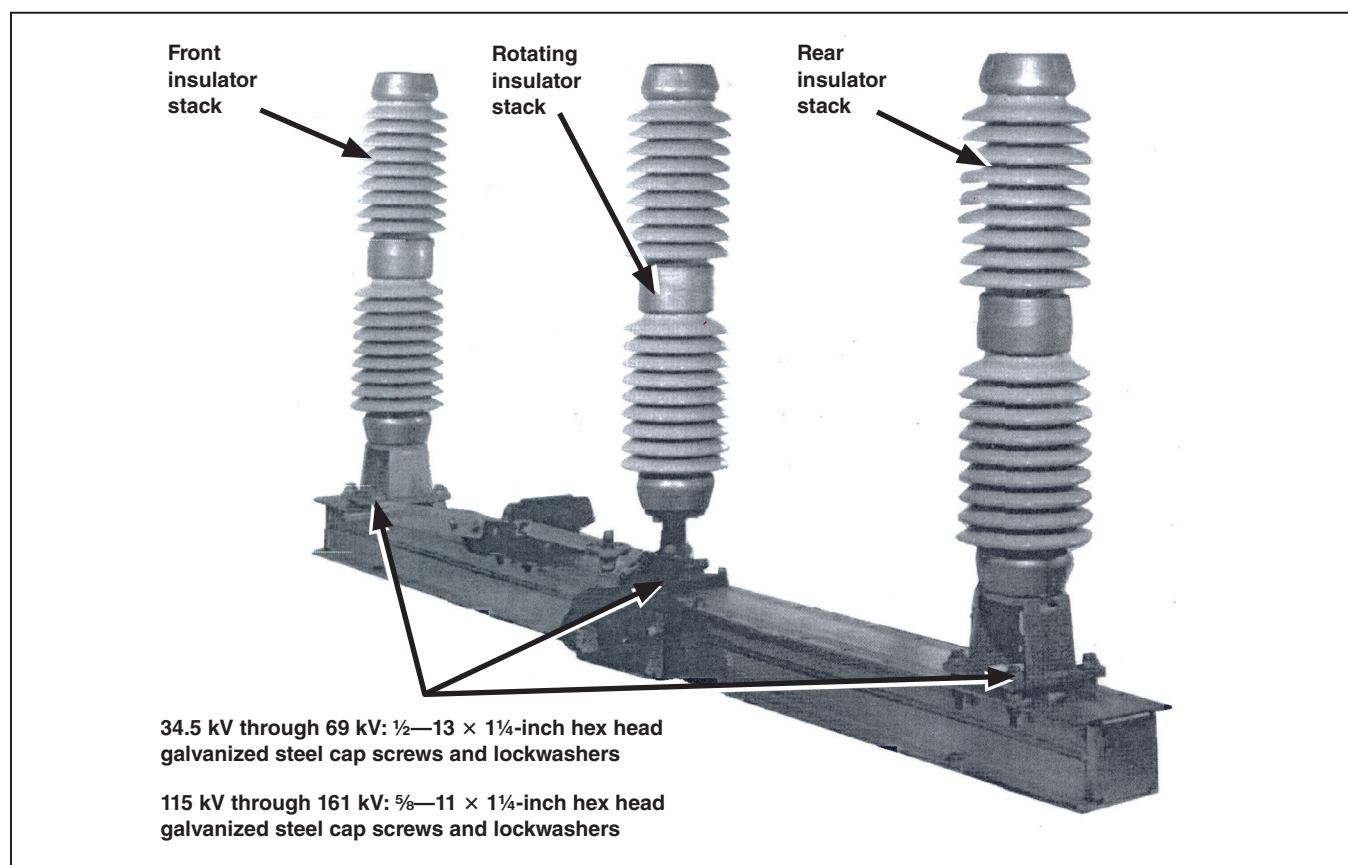

Figure 8. Insulator stacks assembled on pole-unit.
- STEP 7.** Assemble the insulator stacks directly on their insulator supports, using the galvanized hardware specified in Figure 8.
- (d) Operate the temporary hand-operation adapter and check to see the mark on the cord remains within $\frac{1}{8}$ -inch of the center point of the rotating insulator cap as the insulator stack turns. Any eccentricity in excess of this value must be corrected by placing shims between the insulator stack and its support. See Figure 8. Shimming material is included with the insulator hardware in a cloth sack attached to the pole-unit base.